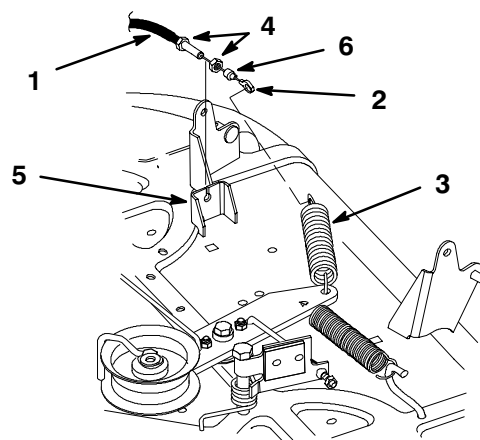

Figure 47
10. Remove the rubber wiper and first jam nut. Thread the second jam nut onto the PTO cable all the way. Route the cable through the slot in the deck bracket and thread the second jam nut onto the cable (Fig. 47).
11. Hook the end of the PTO cable onto the idler spring (Fig. 47).